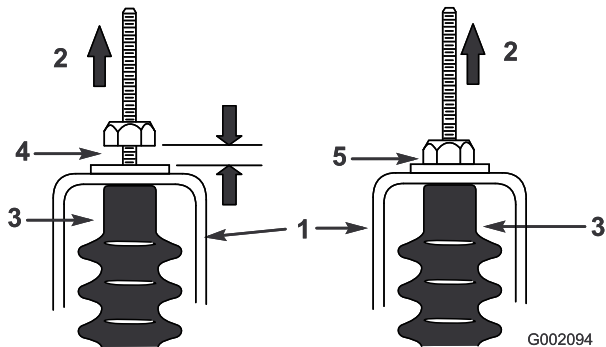

Figure 50
5. Pull up on each shift cable and ensure that there is a 0.76-1.52 mm (0.03-0.06 inch) gap between the nut/washer and the neutral bracket (Figure 50).